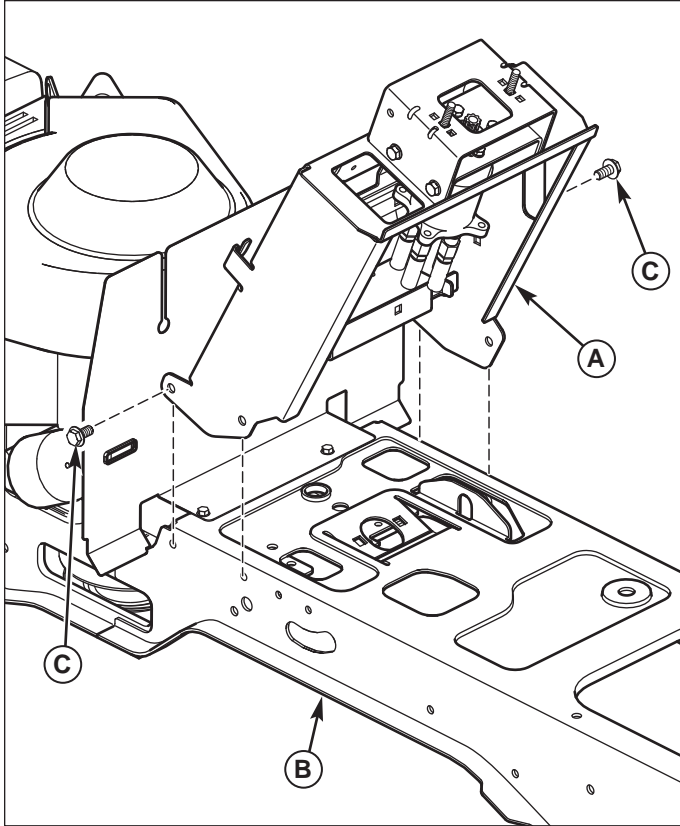

Figure 15 Tower Assembly Installation
3. Attach new tower assembly (A, Figure 15) to frame (A) using two 3/8-16 x 3/4 taptite screws (C).